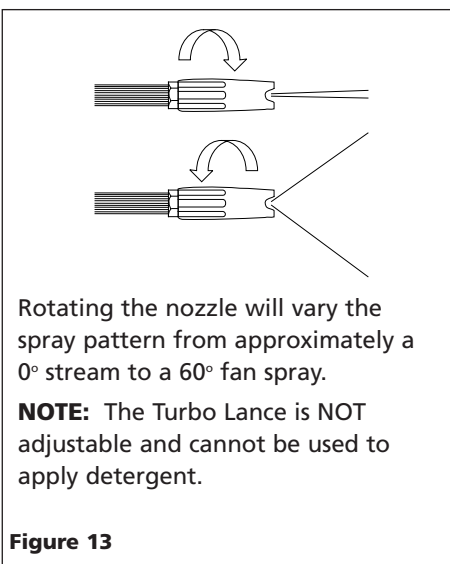

Figure 13
**The pressure washer is now ready to use on your cleaning application. Please refer to Figure 13 for nozzle fan adjustment.**